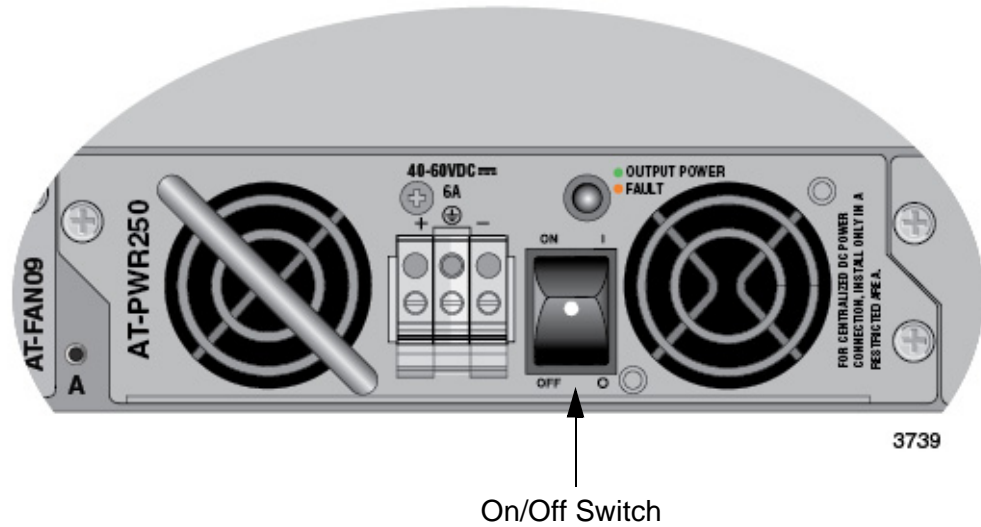

Figure 28. On/Off Switch on PWR250-80 Power Supply
2. Verify that the On/Off switch on the power supply is in the Off position. Refer to Figure 28 on page 110.